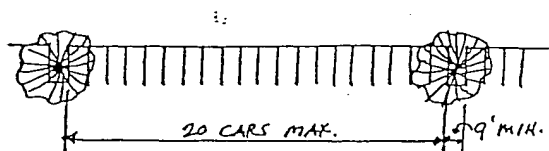

Figure 32
- ☐ Provide planting islands in parking bays at a maximum spacing of every 20 spaces. Islands to be at least one parking space in width. (Figure 32).